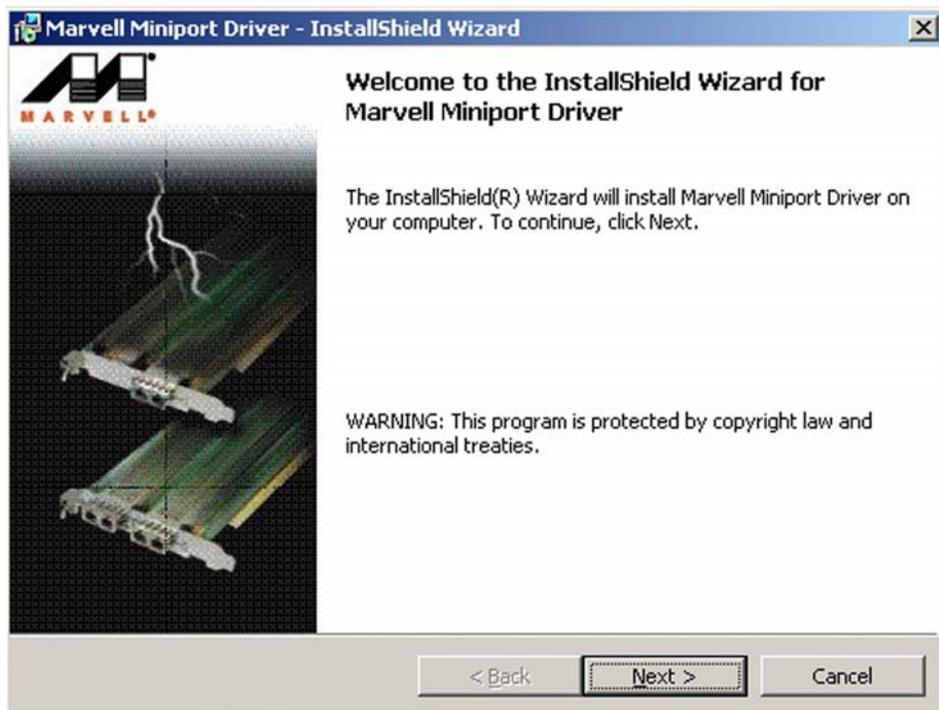

Figure 6-17: Ethernet Controller Driver Installation Welcome Screen
Step 3: After install shield is prepared, the welcome screen shown in **Figure 6-17** appears. To continue the installation process, click the “**NEXT**” button. The license agreement shown in **Figure 6-18** appears.